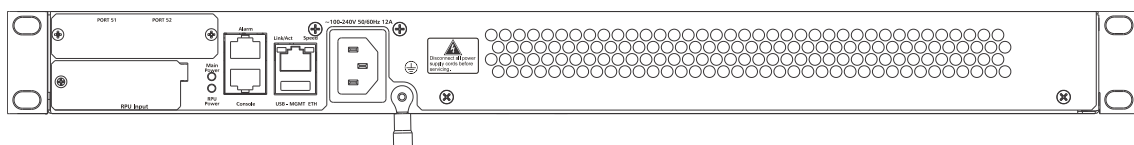

Figure 18. ETH44GP+4GC with Power Supply Connector
Power is supplied to the equipment through a power cord terminated with a three-prong plug. This cable can be connected to any type of AC outlet, within the necessary specifications, within the current and voltage and limits mentioned in the item 5.2.1. In case the device to be empowered is a DM4100 ETH44GP model as shown in Figure 18, the power cable must have connection pins with capacity to 20A at least, in order to support the higher consumption capability of the PoE ports. For all other models, the cable may have support to 10A.